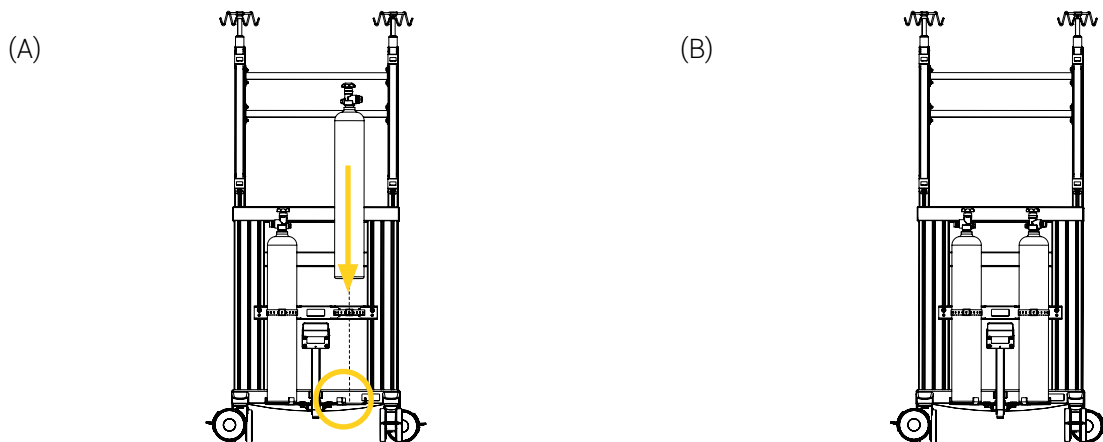

Figure 19 : Installation of the gas cylinder on the mounting bracket
1. Apply the brakes on all four (4) dual wheel swivel casters of the transport cart.
3. Insert and position the gas cylinder on the bottom plate of the mounting bracket (Figure 19).